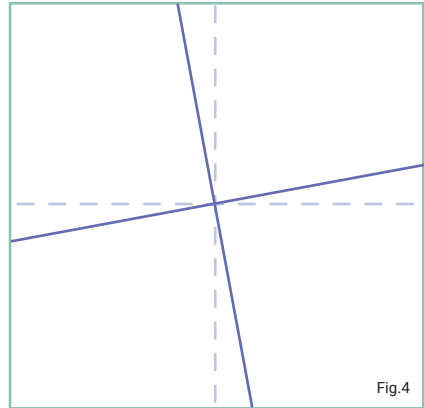

Fig.4
- The laser level can now be tilted to the desired angle (Fig. 4). The laser lines will flash every 5 seconds to alert the user that the laser level is in manual mode.